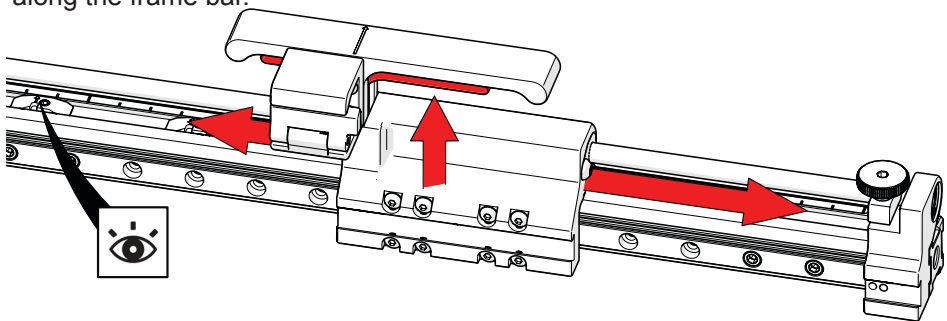

Fig. 20 - Carrier handle latch
2. Press the latch on the carrier handle to position the carrier to the next index location (*Fig. 20*).